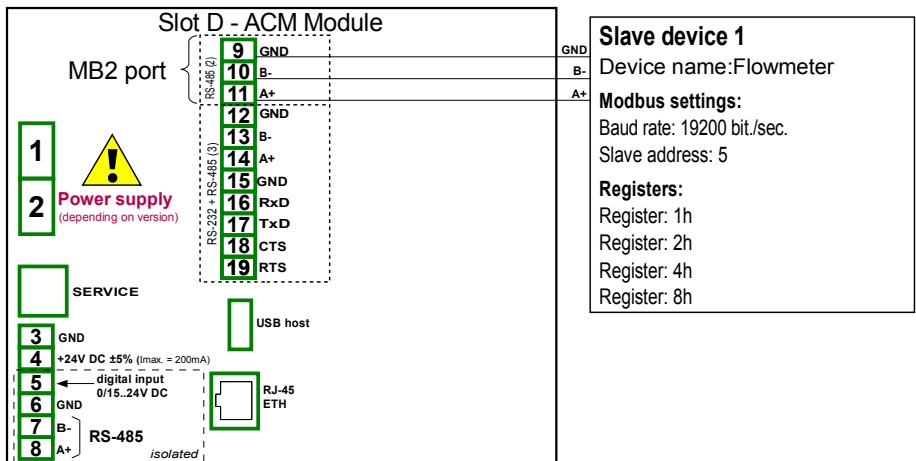

Fig. 7.139. Connection diagram for the Modbus MB2 port
First we need to configure the device according to the following recommendations, then connect the device in according with **Fig. 7.139.**
- using the arrows in the upper right corner choose **Port number: 1 (MB1)** in accordance with **Fig. 7.139**,